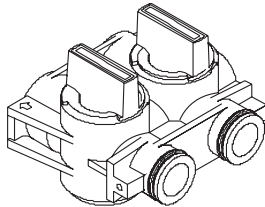

Figure 9
- Move the bypass valve handles to the service position. The valve handles should be parallel to the pipes (see figure 9).